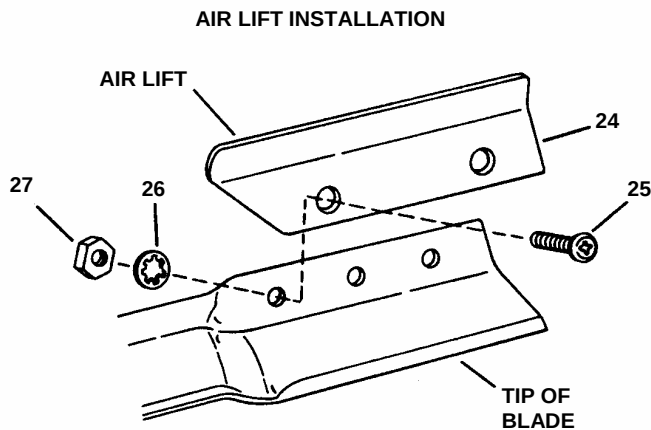

FIGURE 5
1. **AIR LIFT INSTALLATION:** With the Rider standing on its rear bumpers, assemble the air lifts to the topside of the blade tips as shown in Figure 5. NOTE: Tighten the nuts to 20 to 30 foot pounds torque to draw the heads of the screws down firmly into the bevels then retighten each to this same torque value to insure proper tension. Return the Rider to its wheels.